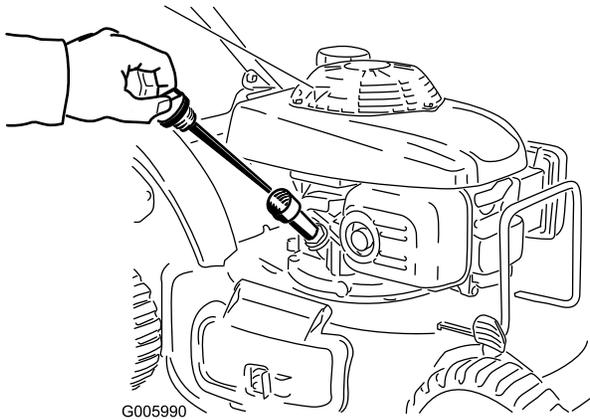

Figure 9
1. Remove the dipstick (Figure 9).
2. **Slowly** pour oil into the oil fill tube, periodically checking the level with the dipstick, until the dipstick indicates that the engine is full as illustrated in Figure 9. **Do not overfill.** (Max. fill: 20 oz. (0.55 l), **type:** SAE 30W detergent oil with an API service classification of SH, SJ, SL, or higher.)